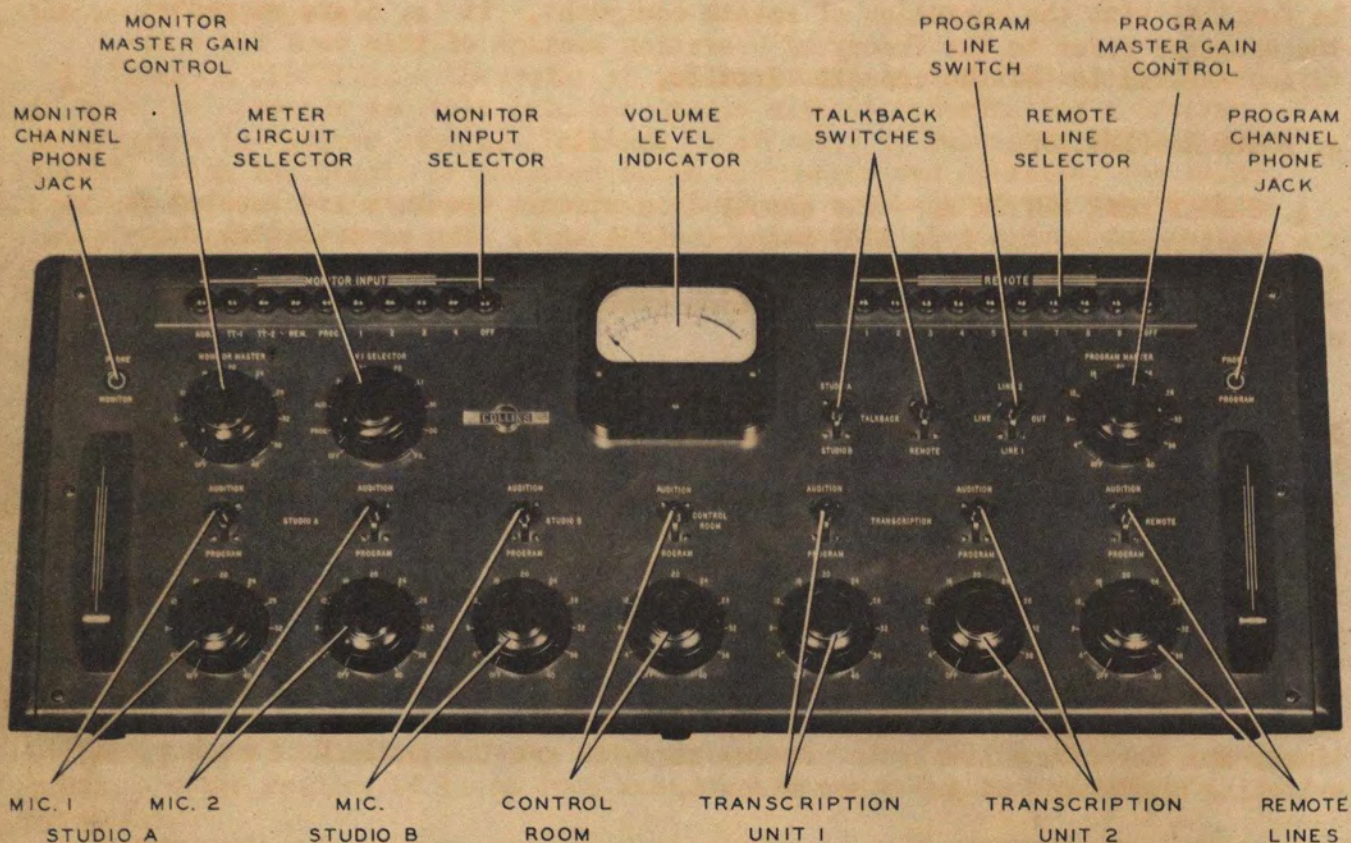

Figure 4-1 Routine Operating Controls
b. MIXING CONTROLS. - The seven groups of input channel mixing controls are located along the lower edge of the panel. Each group is clearly identified by the engraving adjacent to it. Refer to figure 4-1. An attenuator and key switch comprise the individual mixing circuit. The attenuators operate in the conventional manner with minimum attenuation (maximum output) being obtained in the extreme clockwise position, marked forty (40). Complete cutoff is obtained in the position marked zero (0). Two (2) db attenuation per step is introduced into the circuit. The key switch will connect the input into either the PROGRAM Channel or AUDITION Channel. When the key switch is in the center position the input is entirely disconnected. The mixing and switching circuit is so designed that correct impedance relations are maintained at all times, and the volume levels in various circuits are independent of mixing and switching operations in any other circuit.